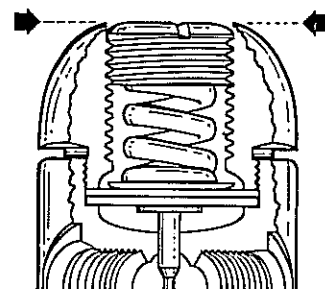
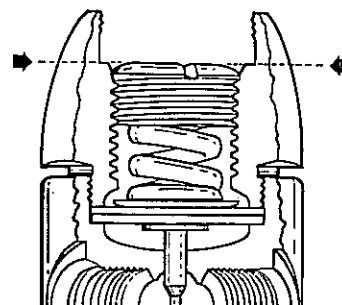

FIGURE 5
FIGURE 6
9. Next, using a large flat-bladed screwdriver, turn the adjustment screw counterclockwise until it is flush with the end of the spring retainer. (See Figure 5). For the Conshelf S.E.S., the adjustment screw should be turned clockwise until it is flush with the secondary diaphragm supporting shoulder (See Figure 6). For the Conshelf S.E.S. Remember that a new supply of silicone fluid will be poured into the spring retainer (Item 10) after the intermediate pressure adjustment is completed. After the procedure is finished, a new secondary diaphragm (Item 48) and the secondary-diaphragm retaining ring (Item 49) will be reinstalled. Refer to Subsection IX on First-Stage Adjustment if necessary.